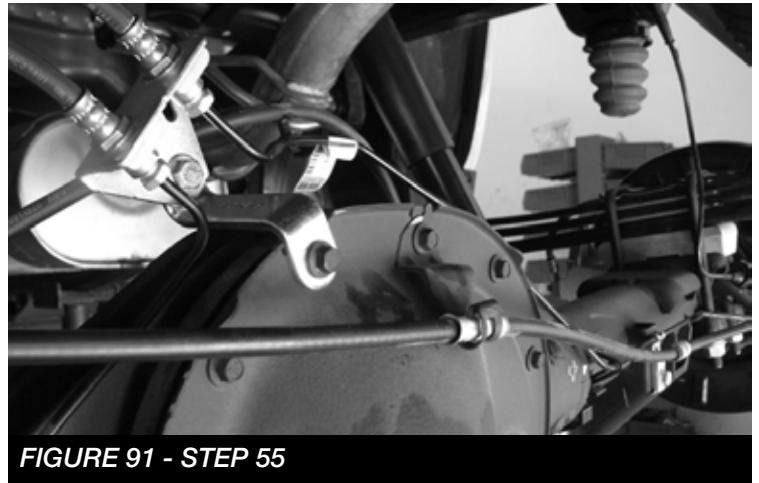

FIGURE 91 - STEP 55
55. Locate FT20349 (Brake Line Bracket) and the supplied 5/16"-18 x 1" bolt, washers and nut. Attach the new bracket to the differential using the factory bolt. Then, attach the brake line assembly to the new fabtech bracket using the supplied 5/16" hardware. Torque to 29 ft-lbs. **SEE FIGURE 91**